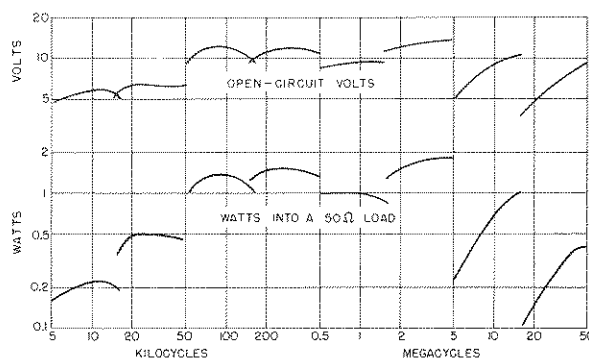

Figure 2. Typical Output Characteristics of Bridge Oscillator.
**2.3 OUTPUT CHARACTERISTICS.** Output characteristics of the Bridge Oscillator are as shown in Figure 2.